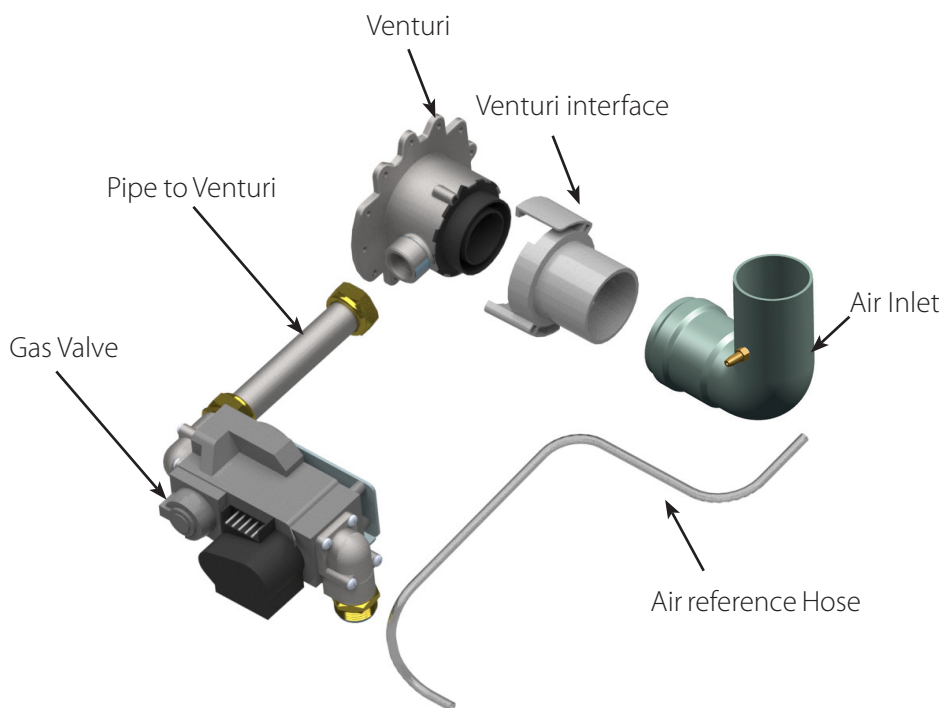
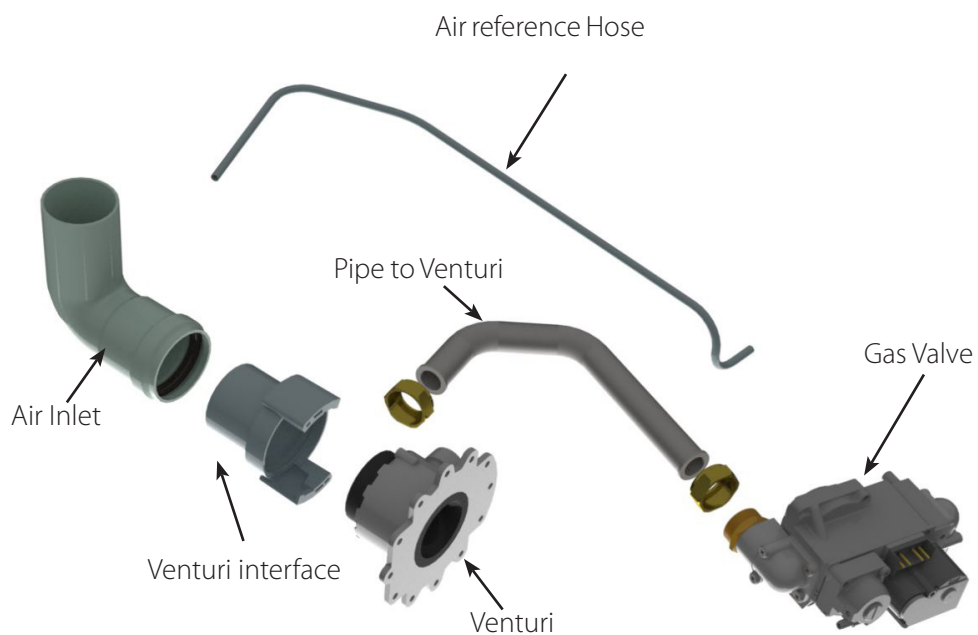
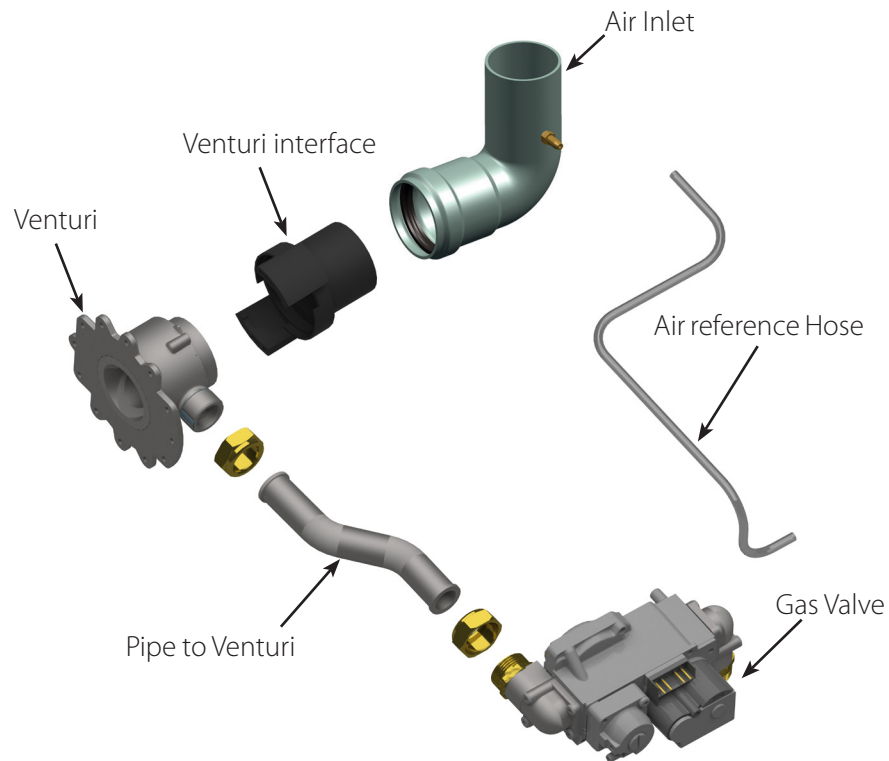

Fig. 16 - Gas Valve / Venturi Assembly - EXALT Heat Only 110
Fig. 17 - Gas Valve / Venturi Assembly - EXALT Heat Only/Combi 155
Fig. 18 - Gas Valve / Venturi Assembly - EXALT Heat Only/Combi 199
- Prior to start up, ensure the unit is set to fire propane. Check the rating label for the type of fuel. Check the venturi for propane conversion label. If there is a conflict or doubt on the burner configuration, remove the venturi and check for proper propane gas orifice sizing on venturi labeling. Refer to *Table 3* for orifice sizes. See *Fig. 16, Fig. 17 & Fig. 18* for venturi location. Refer to Propane Conversion Instructions for proper removal and replacement of the venturi.
1. The circulator connections used will depend on the systems piping layout. See *Fig. 16 on page 32 through Fig. 11 on page 21* for common system piping applications and associated circulator wiring. Consult the *Fig. 10 on page 20 and the EXALT CTRLMax Control Supplement* for additional options.